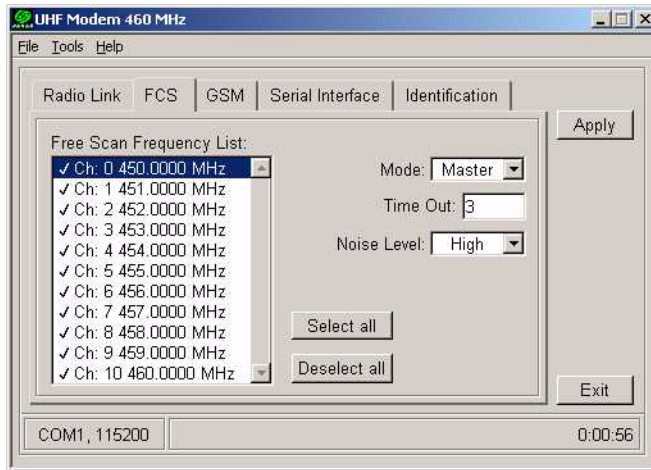

Figure 2-26. FCS Tab
- Click on the **FCS** tab (Figure 2-26).